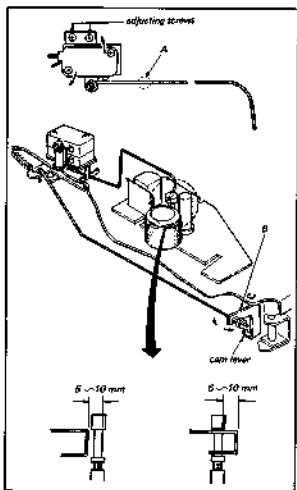

Fig. 4-23. Actuator adjustment
4. If the aforementioned conditions are not met, refer to Fig. 4-23 and proceed to the following steps. Set the Function Lever to STOP and check for 5 to 10 mm clearance between the top of the Actuator and the tape running surface. If not, turn the adjusting screws on the actuator mount or bend Section B of the Cam Lever.